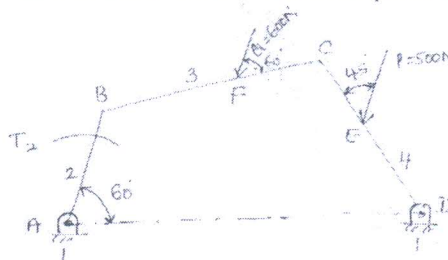

Fig. Q1 (b)
b. In the following Fig. Q1 (b) a 4-bar mechanism is shown. Calculate the required value of T_2 and various forces on links for the equilibrium of the system. (16 Marks)